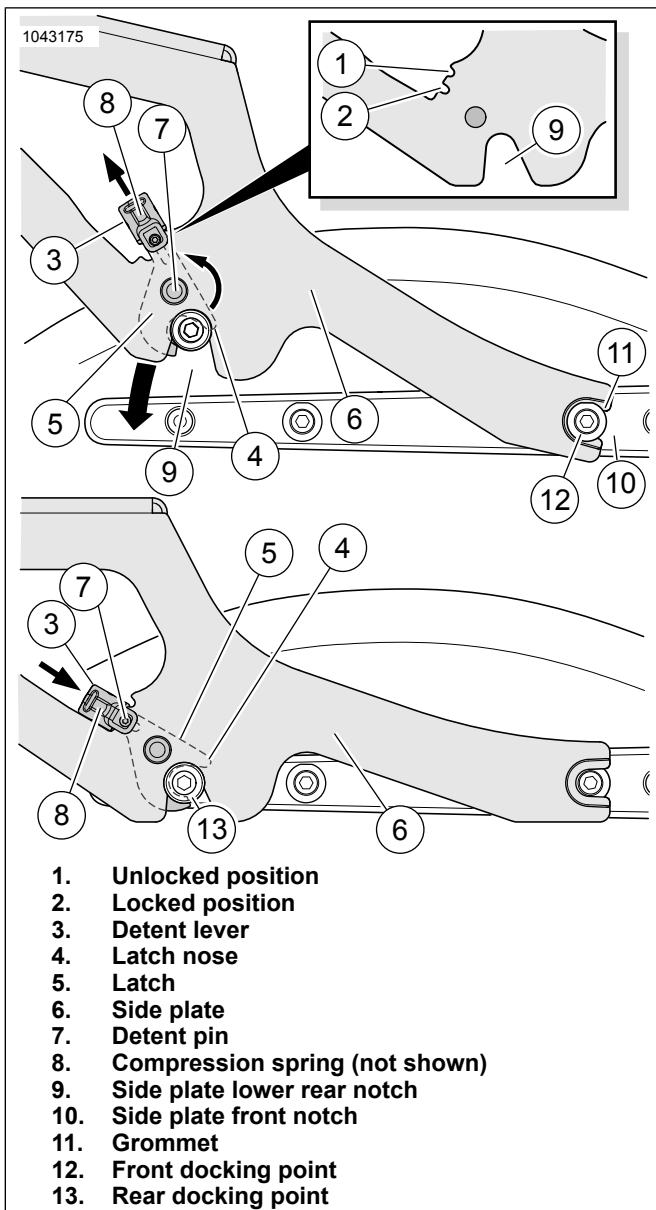
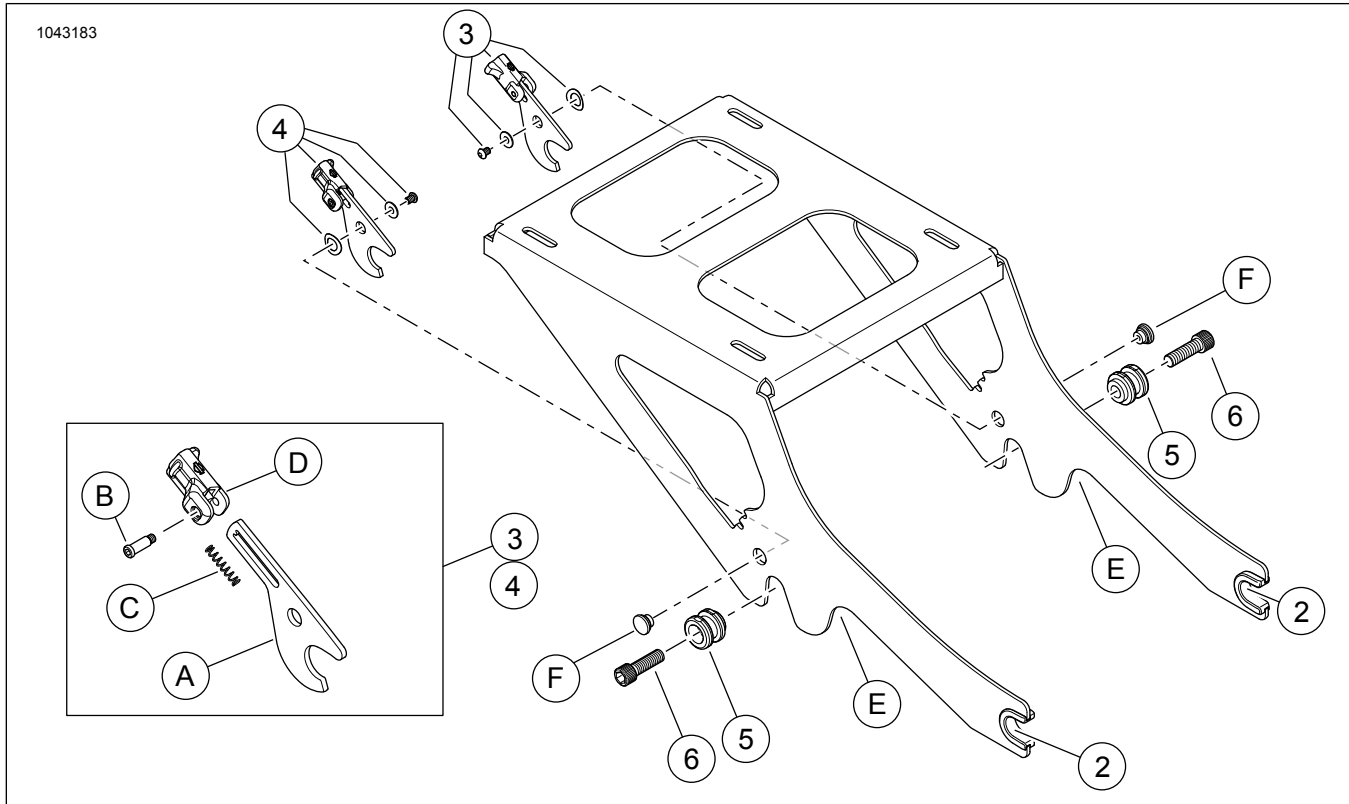

Figure 1. Detachable Two-Up Tour-Pak Mount Installation
Figure 4. Service Parts, Detachable Tour-Pak Mount Kits
Refer to Figure 4 and Table 1.
2. See Figure 4. Apply threadlocker to bolts (6).
1. See Figure 4. Position the right (4) and left (3) latch levers in the unlocked position as shown in Figure 1, upper view (Item 1).
- a. Pull both detent levers (3) rearward against the compression spring (8, not visible).
- b. Rotate the levers upward so each latch nose (4) is positioned inside the lower rear notch (9) of the side plate (6).
- c. Each detent pin (7) is now located in the uppermost (unlocked position) notch.
- d. The compression spring (8) inside the detent lever holds the latch (5) in the unlocked position.
2. Push the Tour-Pak® mount front notches (10), with grommets (11) in place, firmly and evenly into the front docking points (12).
3. See Figure 1, lower view. Swing the rear of the Tour-Pak mount side plates (6) downward toward the rear docking points (13).
- a. As the side plates (6) move down, the latches make contact with the plastic surface of the rear docking points.
4. As the docking points contact the latches, each latch nose (4) is forced upward.
- a. This causes the pin (7) to move down into the lowermost (2-locked) position on the side plate.
- b. The springs (8) lock each latch firmly in place around the rear docking points.
5. Make sure that detent pins (7) are fully seated against the side plates (6).
- a. If not fully seated, push detent lever (3) forward.
- As the levers rotate upward, the latch noses (4) are forced against the rear docking points (Figure 1, Item 13).
- This raises the rear of the Tour-Pak mount side plates (6) out of the docking points.
- Release the detent levers. The springs (8) will move each lever back into the unlocked position (1).